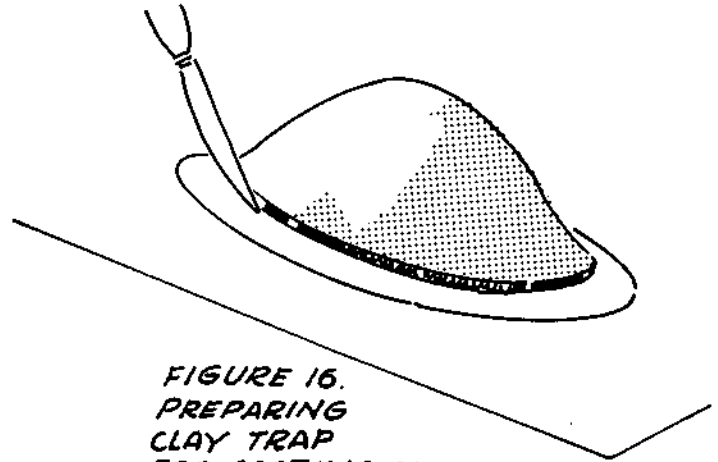

FIGURE 16.
5. Put a heel-shaped piece of clay under the clay trap and trim the sides. This will prevent the cement from running under the mold. See Figure 16.